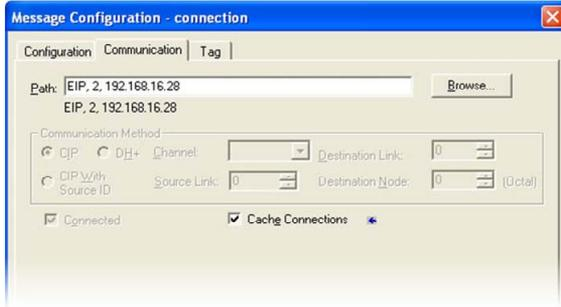

Figure 90: Setting the Communication Path
- d) "Communication" tab settings (refer to Figure 90):